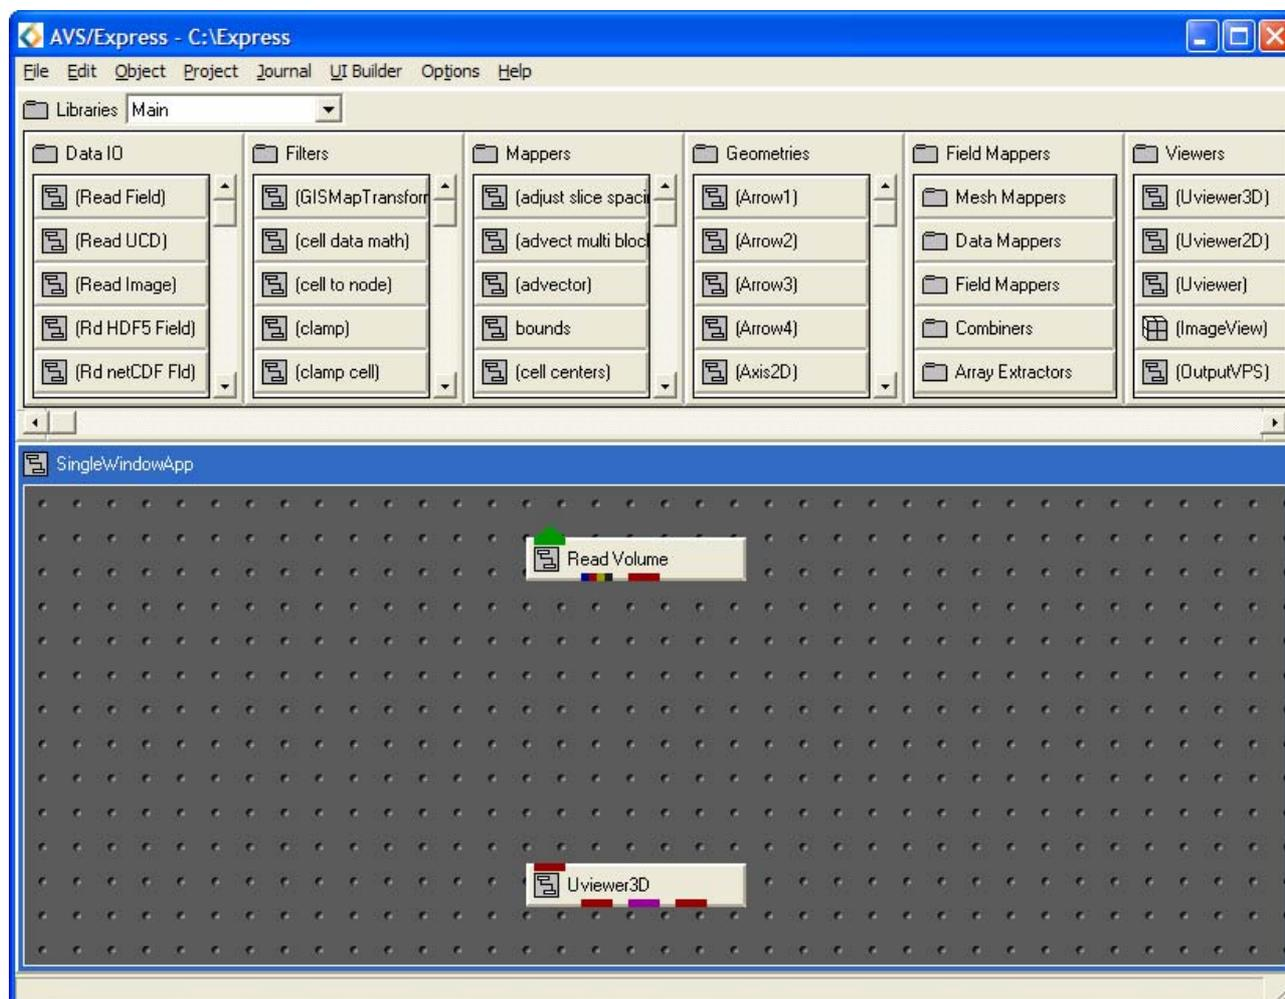

Figure 2.7: Network Editor containing a Data IO and Viewers Module
- The module will be instantiated to the workspace as shown in Figure 2.7.